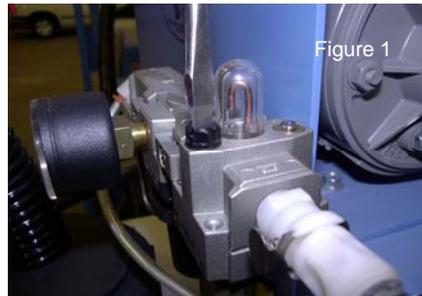

Figure 1
**To add oil to the system**, there is a plastic screw plug located on the top of the conditioning unit. Be sure to drain all air pressure from the system before removing the plug, to avoid a mess. This would be a good time to open the drain valve on the bottom of the air tank to drain off condensation buildup. Once you are sure there is no pressure, remove the fill plug (figure 1).